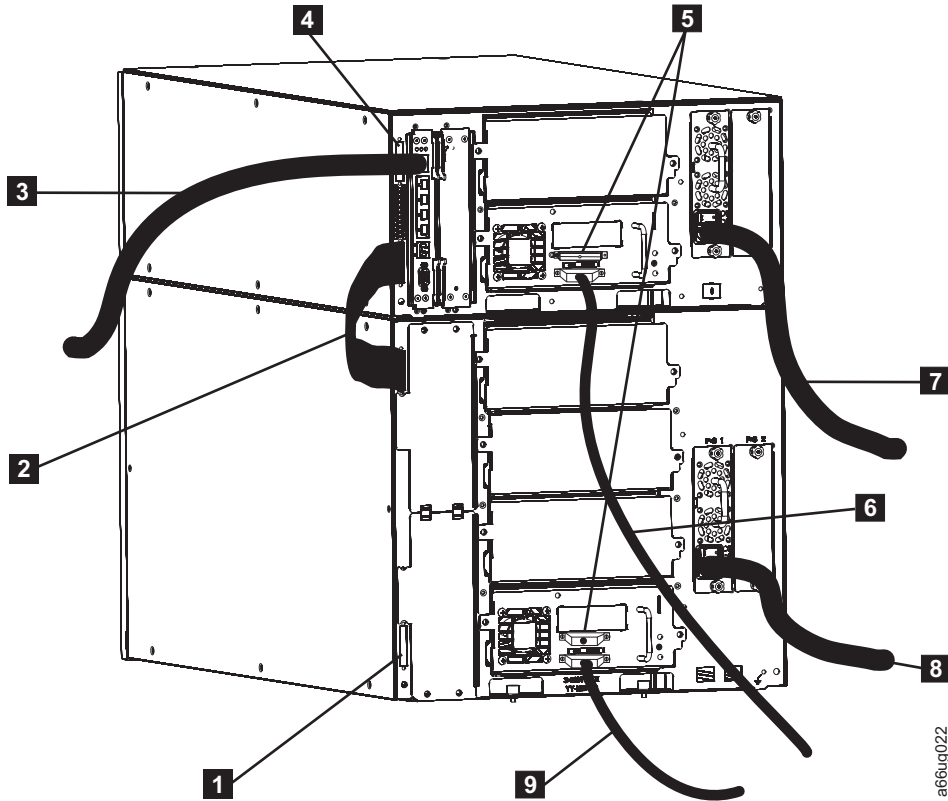

Figure 3-32. Cabling of a 14U library containing multiple SCSI drives
1. Install a module communication terminator in the upper receptacle of the upper module of your library (**4** in Figure 3-32).
2. Install one end of the module-to-module communication cable (**2** in Figure 3-32) in the lower receptacle of the upper module of your library, then install the other end in the upper receptacle of the lower module of your library.
3. Install a module communication terminator in the lower receptacle of the lower module of your library (**1** in Figure 3-32).
4. Install one end of the customer-supplied Ethernet cable (**3** in Figure 3-32) in the Library Control Blade Ethernet port, then connect the other end of the cable to your network.
- For each SCSI drive, install a SCSI terminator (**5** in Figure 3-32) in the upper receptacle of each SCSI drive in your library.
- For each SCSI drive, connect one end of a SCSI cable to the lower receptacle of each SCSI drive (**6** in Figure 3-32 on page 3-33), then connect the other end of the cable to the host.
6. Connect one end of the power cord (**7** and **8** in Figure 3-32 on page 3-33) in the receptacle of a power supply in your library, then connect the other end of the cord to your power source. Repeat this for every power supply in your library.